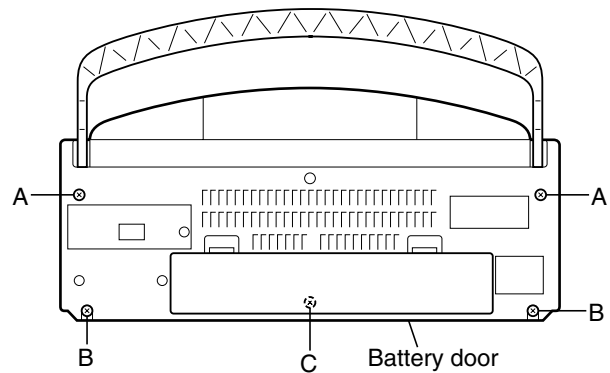

Fig.1
■ Removing the front cabinet assembly and rear cabinet assembly (See Fig.1 to 4)